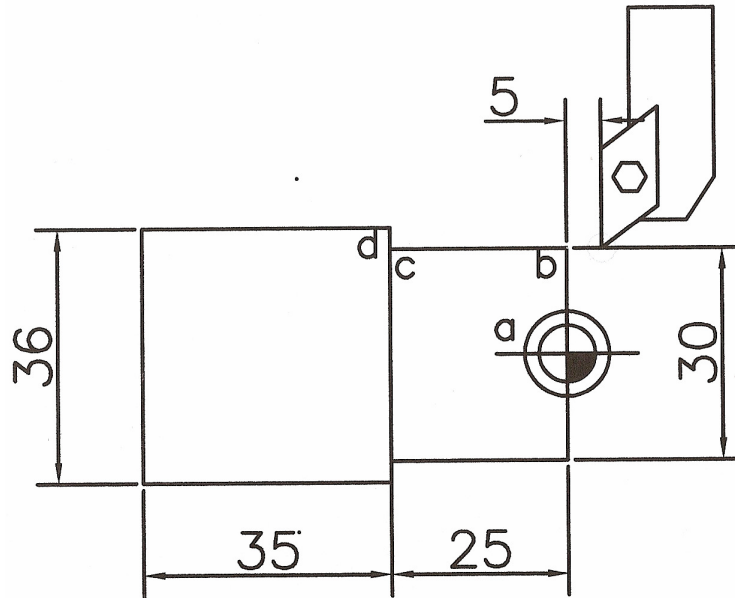

FIGURE 4
6.4 FIGURE 4 below shows the top view of a work piece that will be machined in a CNC lathe.